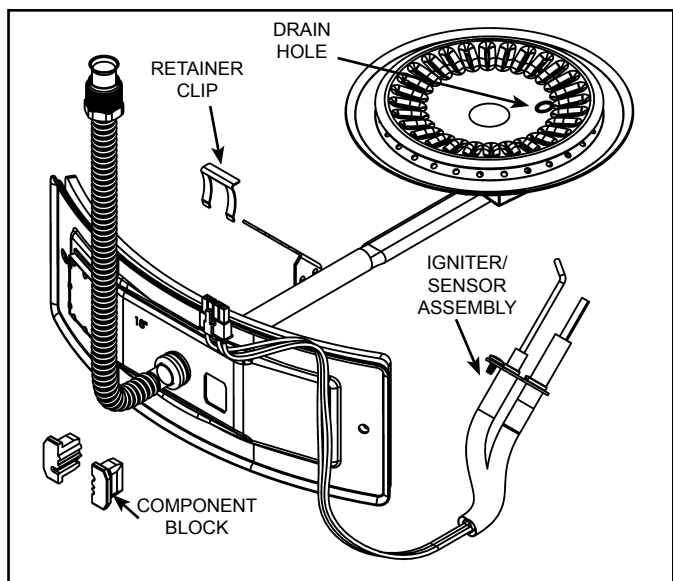

Figure 14
1. Lift the retainer clip straight up from the back of the manifold component block (using a flat-blade screwdriver), then remove the manifold component block from the manifold door (see Figure 14).
3. Remove and retain the screw(s) securing the flame sensor and/or hot surface igniter assembly (see Figure 14).